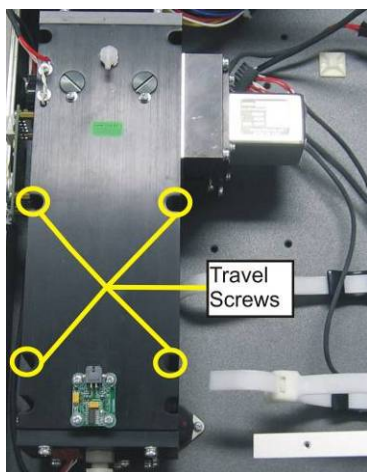

Figure 7 – Travel Screw Locations
6. If transporting the instrument, replace the travel screws (refer to Figure 7).